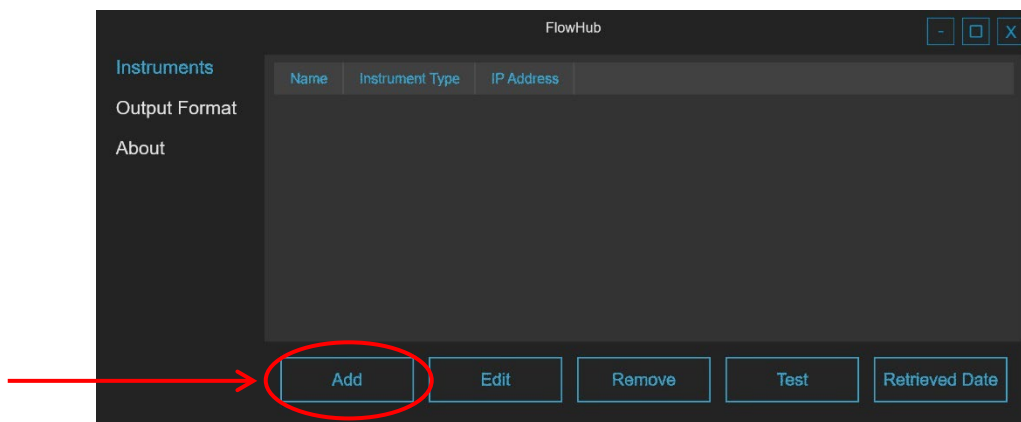

Figure 66: FlowHub Instruments Menu Screen
4. Add instrument to FlowHub. See Figure 66.